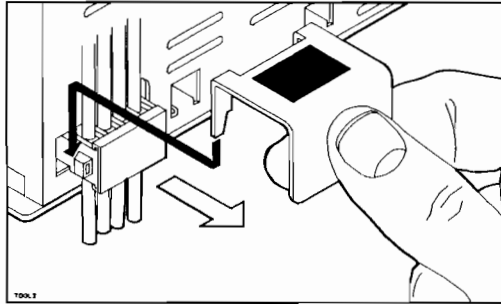

Figure 2-16. Removing the Power Connector
- b. Slide the power connector tool over the connector (see Figure 2-16).